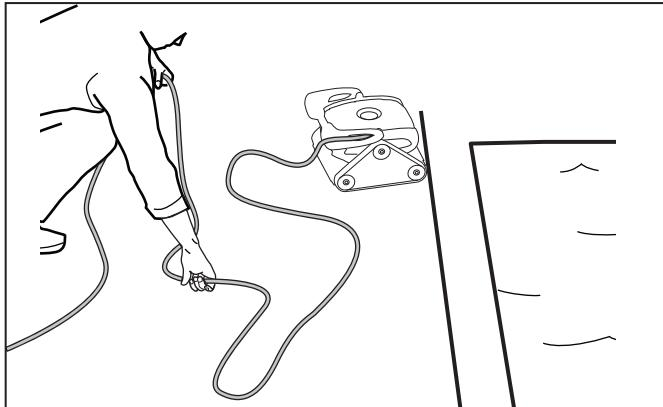

Figure 20. Untangle the Floating cable
- Starting at the cleaner head. Remove all coils and tangles from the cable (see Figure 20).